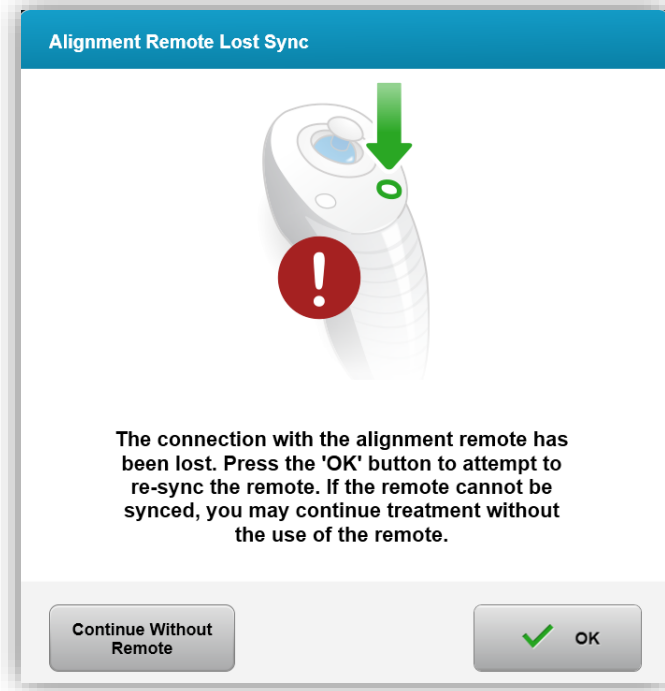

Figure 3-20. Sync Process Timed Out
- If the sync button is not pressed within the 15 second timeframe, a message stating “Alignment Remote Lost Sync” will appear onscreen as shown in Figure 3-20.